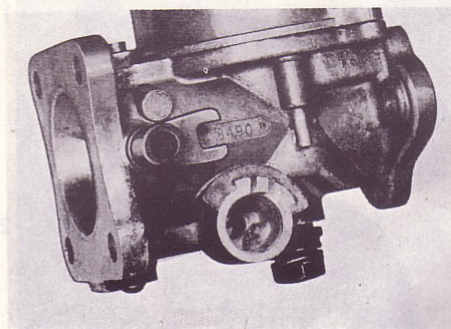
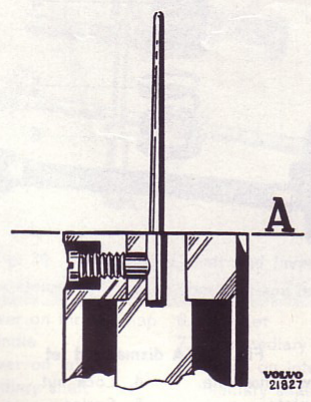

Fig. 23. Carrier yoke position
Fig. 24. Attachment of metering needle
7. Replace the carrier yoke as shown in Fig. 24 (throttle fully closed, idling screw screwed out). Ensure that a clearance of 1.5 mm (0.06") is obtained between the carrier yoke and the throttle housing. Drill with the carrier in position as shown in Fig. 23 and using a 3.0 mm (0.12") drill, the hole for the locking pin is drilled through the throttle spindle, (the hole must be drilled at right angles to the carburettor length axis when the throttle is closed).
1. Fit the metering needle as shown in Fig. 24. Only the tapered part of the needle should project outside the piston.